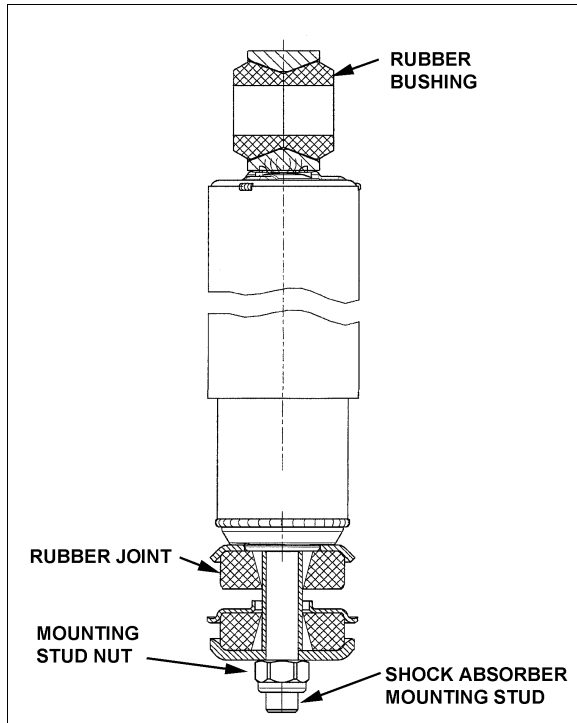

FIGURE 32: SHOCK ABSORBER
5. Install the shock absorber as shown in Figure 32 with the mounting stud protruding through the hole in the mounting bracket and the shock absorber eyes over the mounting pins. Install the outer washer.